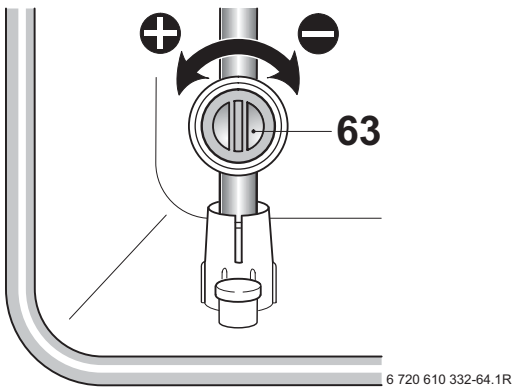

Fig. 43
- ▶ Adjust the gas flow restrictor (63) to obtain the CO2 level given in Table 14. Refer to fig. 43.